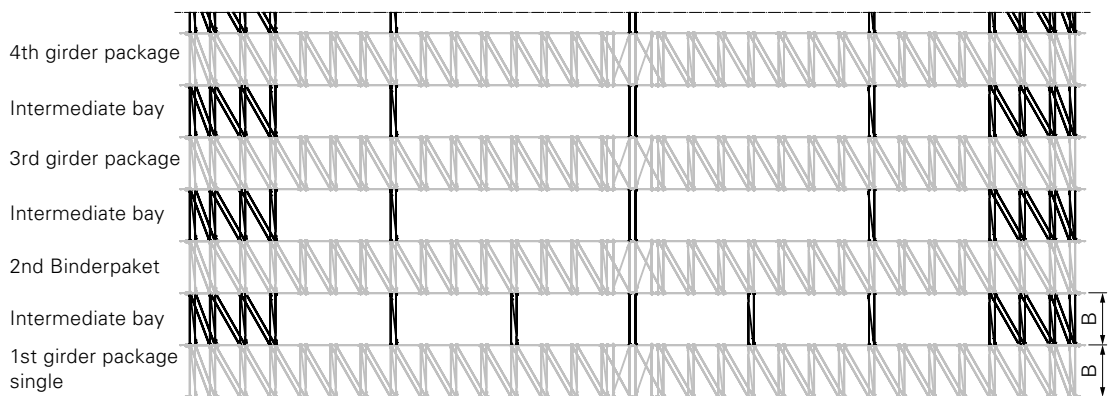

Fig. B1.06a
- 1. Single girder package (Fig. B1.06a)